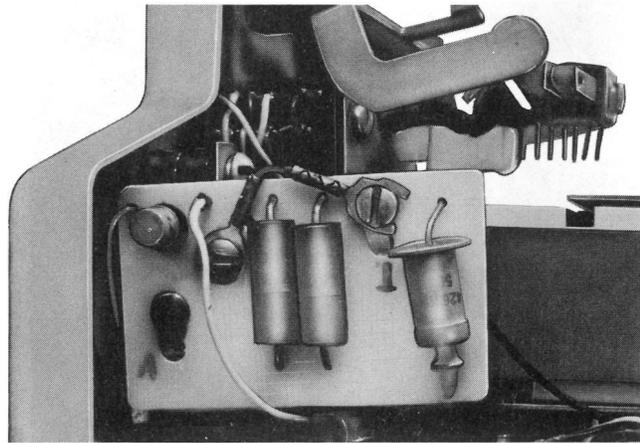
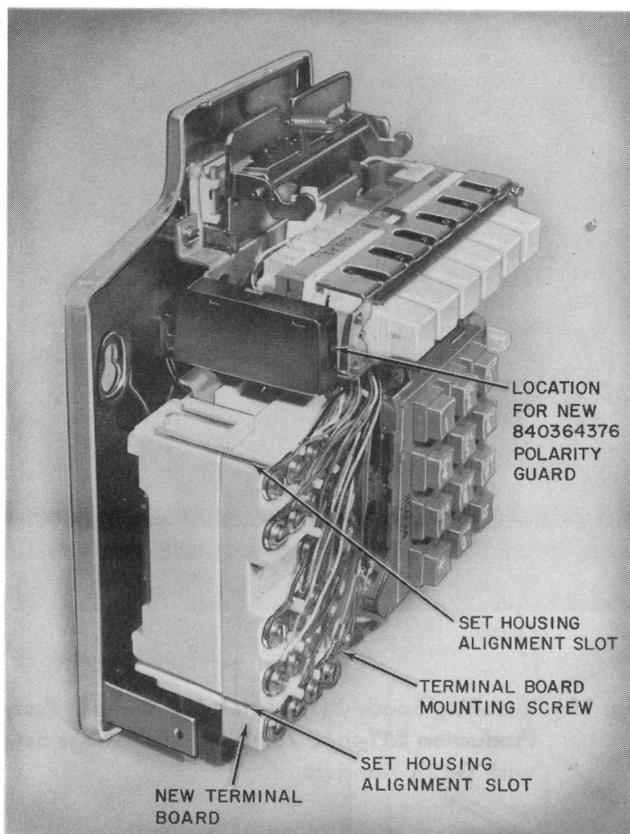
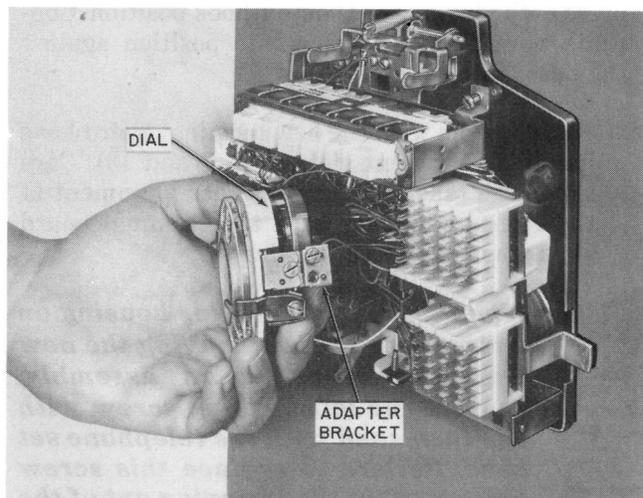

Fig. 14—819041971 (MD) Polarity Guard Position
Fig. 16—2851-Type Telephone Set With New Polarity Guard and Terminal Board
Fig. 17—Dial Adapter Bracket
3.11 Polarity Guard: When required with the 2851-type telephone set, install the adhesive backed 840364376 guard to the left side of key bracket in the position shown in Fig. 16. The 819041971 (MD) polarity guard should be installed per Fig. 14.
3.12 3-Type (MD) Speakerphone: These sets are factory-wired for 3-type (MD) speakerphone except that the 851-type telephone set requires the replacement of the 8RA dial with an 8CA dial to provide a second set of off-normal contacts (P3 and P4 leads). When replacing the dial, the adapter brackets must be removed from the 8RA dial and added to the 8CA dial (paragraph 5.02, Fig. 17). With both the rotary and TOUCH-TONE telephone dial sets, a loudspeaker and transmitter must be installed
5.02 When dial replacement is necessary in the 851-type telephone set, use an 8RA dial for nonspeakerphone sets and an 8CA dial for sets with speakerphone. On sets equipped with the new plastic terminal board, first loosen terminal board mounting screw located adjacent to terminal 3 (Fig. 16). Swing terminal board away to allow access to dial mounting screw. On older sets insert screwdriver between terminal board and network for access to dial mounting screw. Remove dial by loosening adapter mounting screws and springing dial brackets sufficiently to release dial from locating pins. Transfer adapter brackets from dial being replaced to new dial (Fig. 17).